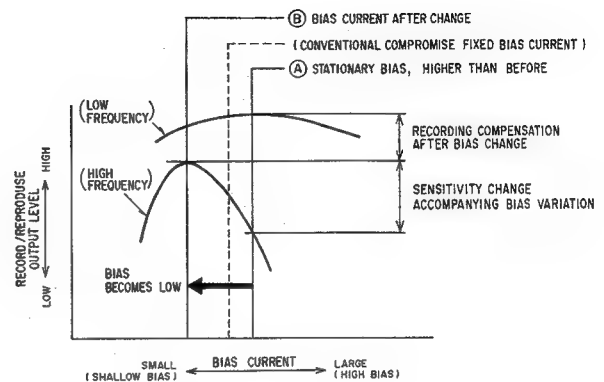
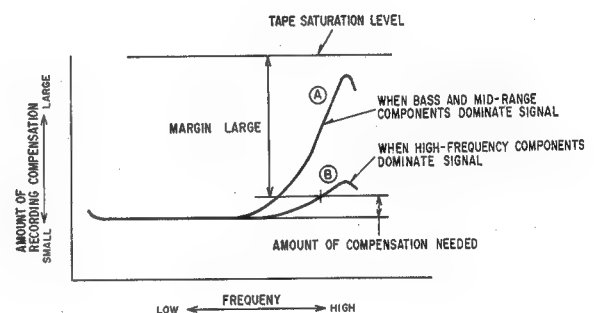

Fig. 3-36 Tape bias characteristic (2)
Fig. 3-37 Recording equalization characteristic (2)
- a. When bass and mid-range components dominate in the input signal or the overall level of the input signal is low, a fixed high bias is applied. (See ① in Fig. 3-36.) In this case, frequency response at low frequencies can be improved by selecting a bias more suitable for lower frequency content than the conventional fixed bias.
- b. When the input signal involves high-level, high-frequency components, bias is decreased instantly depending on the frequency components and level, increasing the sensitivity at high frequencies. (See ② in Fig. 3-36.)
- a. When bass and mid-range components dominate the input signal and bias is selected as ① in Fig. 3-36, tape sensitivity is low at high frequencies and, therefore, the recording equalization is that of curve ① shown in Fig. 3-37. With curve ①, the amount of boost at high frequencies is very large but the level of high-frequency components of the input signal is low. Therefore, distortion will not occur during recording.
- b. With high-level, high-frequency signals, bias is lowered. (See ② in Fig. 3-36.) With lower bias, tape sensitivity increases at high frequencies and the amount of recording equalization may be reduced, as shown by curve ② in Fig. 3-37.
- c. Since the variable equalizer is basically a low-pass filter, reduction in turnover frequency results in increased attenuation at high frequencies. Because of this, the recording signal passing through the variable equalizer varies as curves A and B shown in Fig. 3-37.